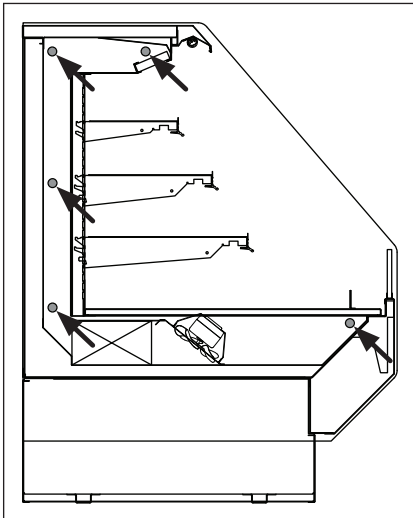

Fig. 5 Bolt locations (PF-54-SC)
4. Push the cases tightly together, then lightly bolt them together through the holes provided (Fig. 5). Tighten all the joining bolts until all margins are equal. Be careful not to over tighten.